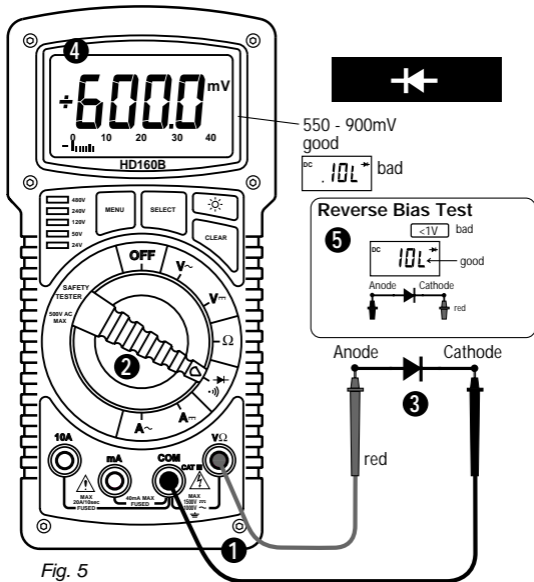

Fig. 5
DIODE AND CONTINUITY TEST (See Fig. 5)
The diode test measures the voltage drop across a diode junction. ❶ Connect the test leads as shown in figure 5. ❷ Set the Function/Range switch to $\rightarrow \rightarrow \rightarrow$. ❸ Apply probe tip of red lead to the anode and of black lead to the cathode of the diode. ❹ The meter's display indicates the forward voltage drop (approx. 0.6V for silicon diode or 0.4V for germanium diode). An open diode is indicated by "1 OL". ❺ Reverse test lead connections to the diode to perform a reverse bias test. "1 OL" indicates a good diode. **Notes:** "1 OL" for both reverse and forward bias tests indicates an open diode. A low voltage reading for both bias tests indicates a shorted diode. If the diode is shunted by a resistor of 1000 ohms or less, it must be removed from the circuit before taking the measurement. Bipolar transistor